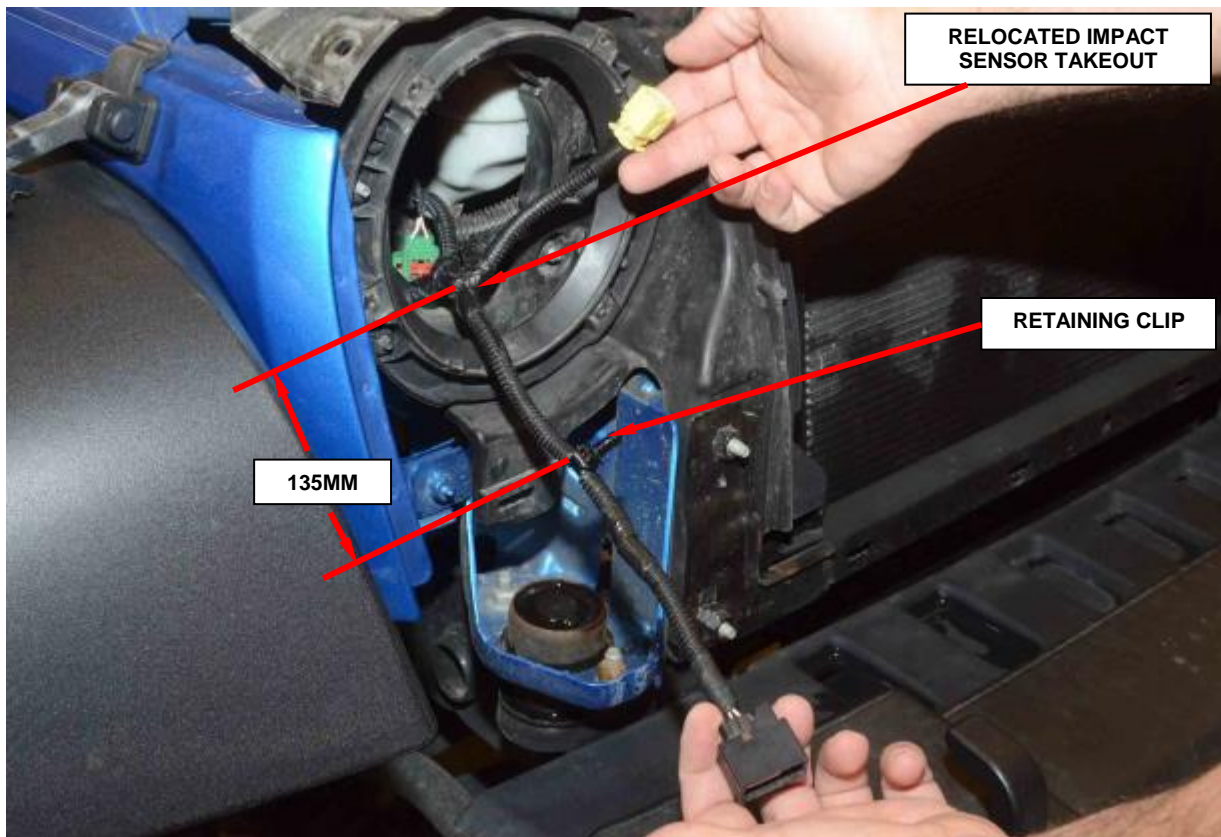

Figure 11 – Wire Harness Retaining Clip
28. Install a **NEW** wire harness retaining clip to the wire harness 135mm (5.5in) from the new takeout as shown. Trim off excess length (Figure 11).